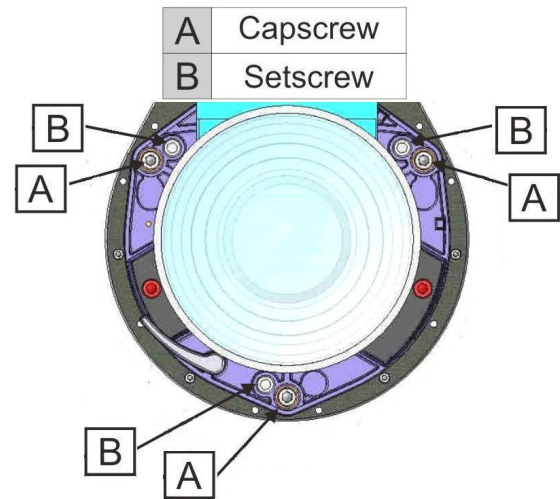
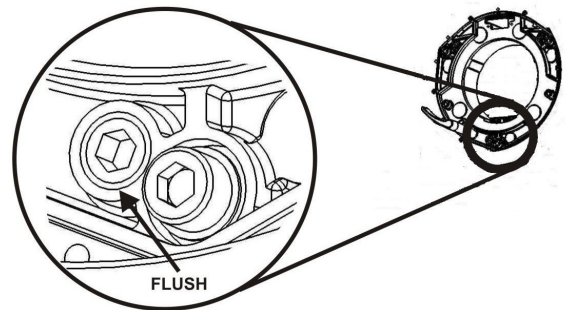

Figure 2-9 Screw Locations
Figure 2-10 Position Setscrew Flush
4. Use a 5mm Allen key to loosen the three locking setscrews on the lens mount, see **Figure 2-9**.
5. Fine tune the focus of cross-hair pattern I by adjusting the appropriate capscrew, see **Figure 2-9**. Adjust until the cross-hair image is in focus with minimal flare.
6. Adjust cross-hair pattern II, by adjusting the appropriate capscrew, see **Figure 2-9**. Adjust until the cross-hair image is in focus with minimal flare.
7. Adjust cross-hair pattern III, by adjusting the appropriate capscrew, see **Figure 2-9**. Adjust until the cross-hair image is in focus with minimal flare.
9. The original factory boresight can be recovered approximately by positioning the 3 setscrews, see **Figure 2-9**. Position the setscrews flush with the front face of the lens mount plate and in contact with the inner lens mount plate, see **Figure 2-10**. This may require adjusting both setscrews and capscrews.